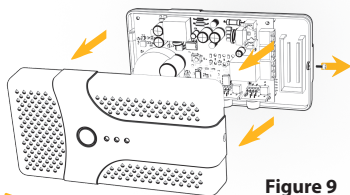

Figure 9
- 3) Remove the front cover of the detector by unscrewing the screw as shown in Figure 9.